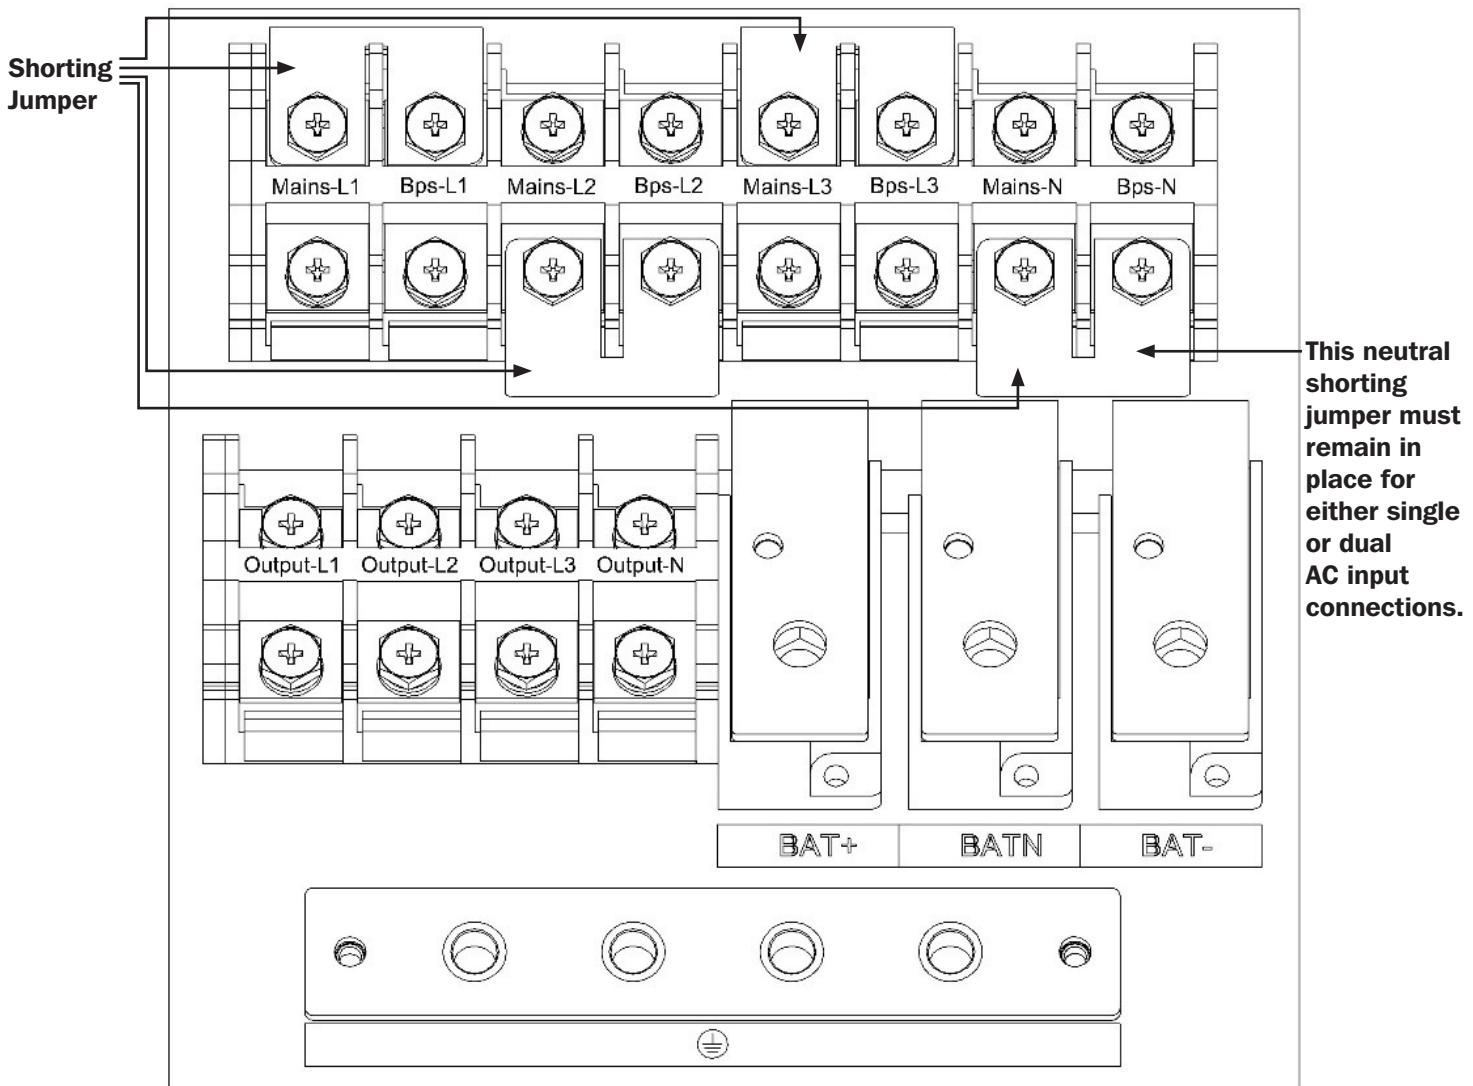

Figure 3-10: Single Input Connection, Models S3M25K and S3M30K
**Note:** The UPS unit is defaulted to single input mode, as shown in Figure 3-10. Remove the shorting jumpers to use in dual input mode.